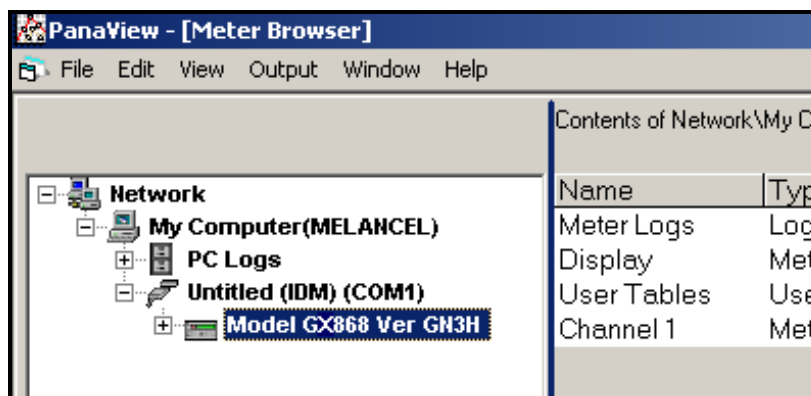

Figure C-6: The Updated Network Tree
If the initialization is successful, the Meter Browser shows a listing similar to Figure C-6 below.
1. Highlight the meter (as shown in Figure C-6 on page C-6).